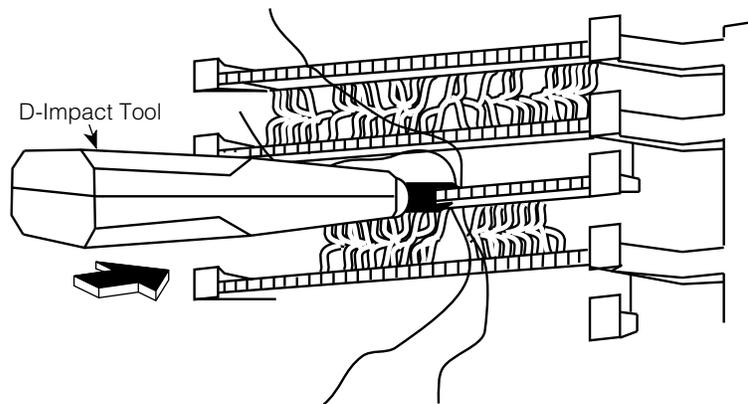

Figure 4–4. Using the D-Impact Tool to Seat the Conductors
- c Use the D-impact tool to seat the conductors. See Figure 4–4.